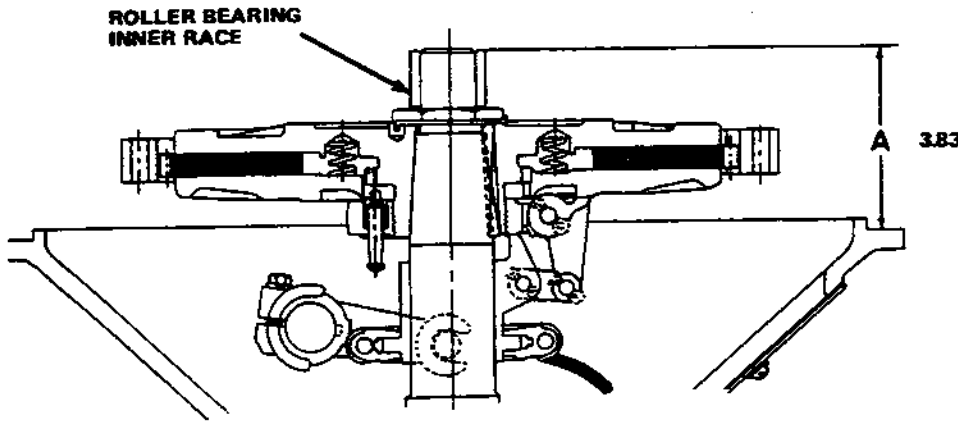

FIGURE 1.
3. Measure dimension A as shown in fig. 1.